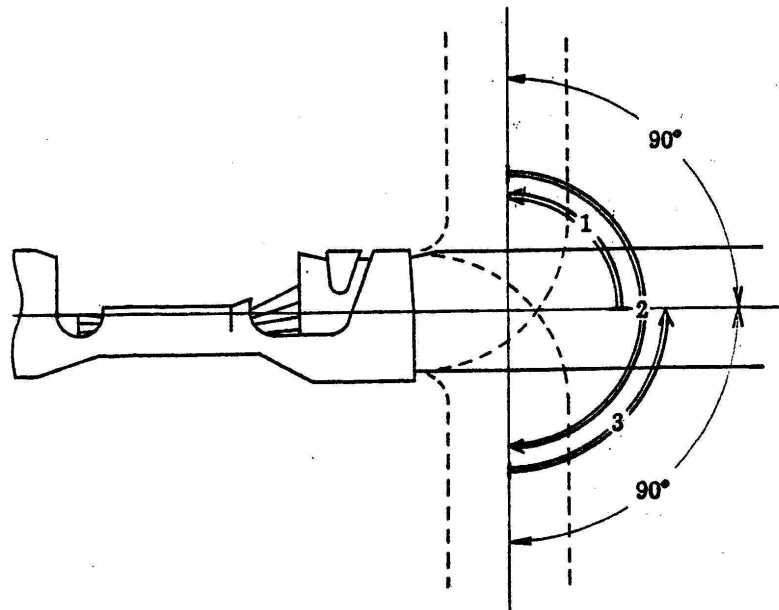

Fig. 1
*1 Crimping height and width of insulation barrel shall not result in the drawing from the barrel part by excessive crimping height, width or drawing from the barrel part by the broken over in the bending test as shown in Fig. 1.